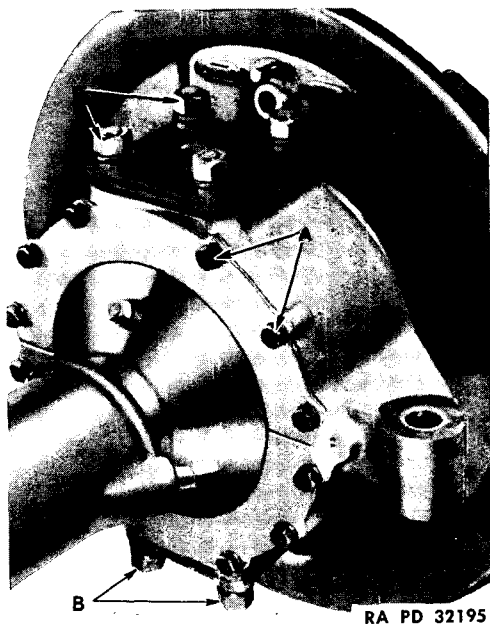

Figure 6—Outer End Seal Construction
a. **Procedure.** To replace the steering knuckle support and bearings, it is necessary to remove the component parts, as instructed in paragraph 11 b, (1) through (11). After removing the axle shaft, proceed as follows:
(1) **REMOVE RETAINER PLATES, FELT AND SEALS (A, fig. 6).**
(2) **REMOVE TRUNNIONS (B, fig. 6).**